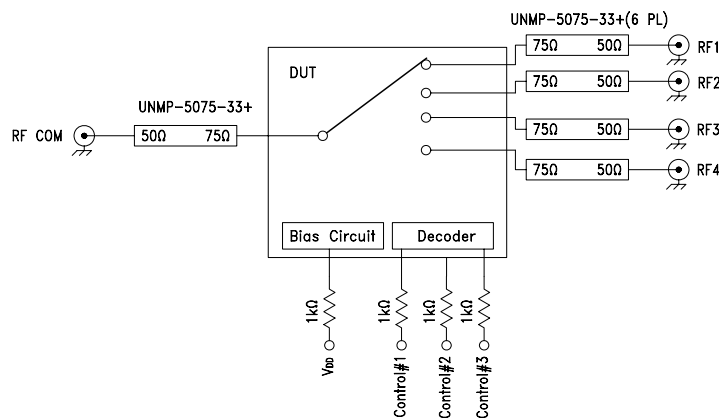

Figure 1: Block Diagram Of Test Circuit Used For Characterization. (DUT soldered on Mini-Circuits' TB-722-4-F+)
- As measured in Mini-Circuit's test board TB-722-4-F+ (see Characterization Test Circuit, Fig.1).